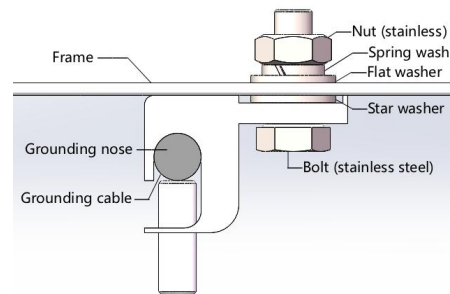

Figure 21 Schematic diagram for installation of connecting lug fastened by bolt
- When connected in parallel, the output current of the whole string of modules is equal to the sum of the current of each branch module or module string (the parallel connection mode is shown in Figure 21). Each string of modules shall be equipped with a fuse. The reference formula for the maximum number of modules in parallel connection: maximum protective current/(1.25 * short-circuit current). Please refer to the national or regional or local specifications for details.